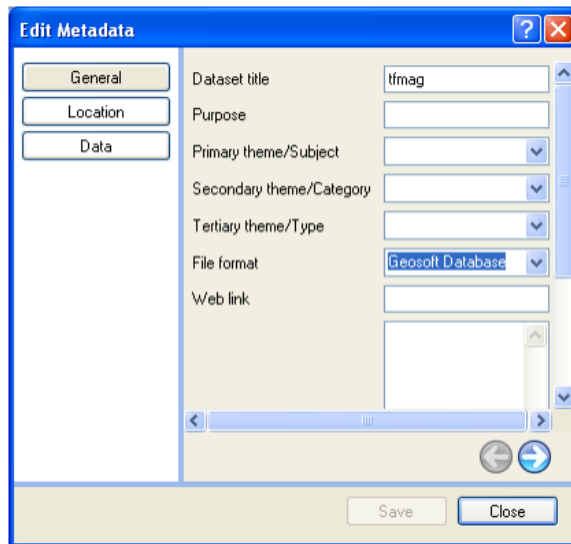

Figure 1.80. – Edit metadata window
5. To edit the Metadata, click the [Edit] button and the *Edit Metadata* dialog will be displayed, fig. 1.80.